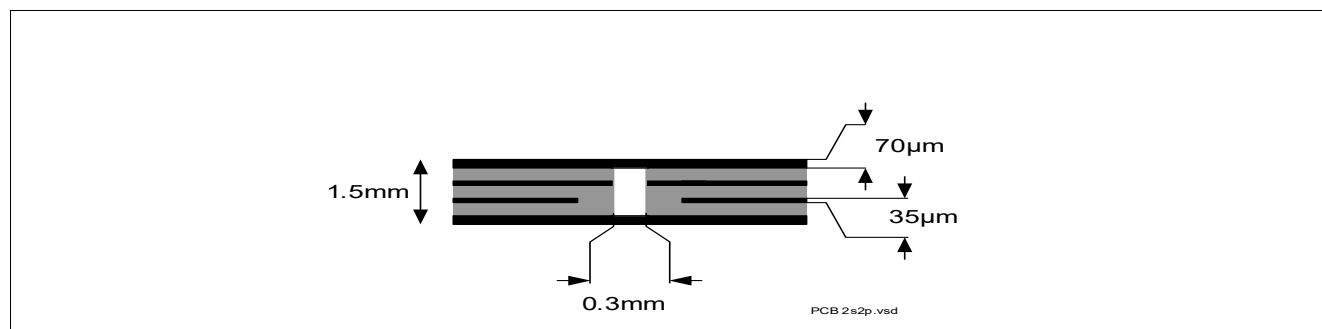

Figure 4 2s2p PCB Cross Section
2) Specified R_{thJA} value is according to JEDEC JESD51-2,-5,-7 at natural convection on FR4 2s2p board with 1 W power dissipation equally dissipated for both channel at $T_A = 105^\circ\text{C}$; The product (chip + package) was simulated on a 76.4 x 114.3 x 1.5 mm board with 2 inner copper layers (2 x 70 μm Cu, 2 x 35 μm Cu). Where applicable, a thermal via array under the exposed pad contacts the first inner copper layer. Please refer to Figure 4.